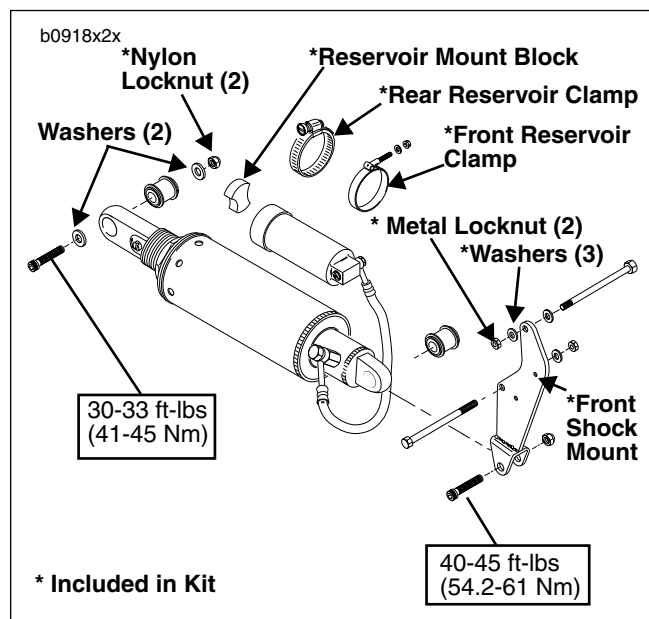

Figure 2. New Shock Absorber Assembly
5. See Figure 2. Use a flex socket and extension to remove locknut and washer from front reservoir clamp. Discard clamp and locknut. Retain washer.
6. See Figure 2. Loosen rear reservoir clamp. Slide reservoir and mount block out of clamp. Remove and discard clamp and mount block.
1. See Figure 2. Install new front shock mount to crankcase with two **new** front shock mount bolts, washers and metal locknuts. Tighten bolts to 30-33 ft-lbs (41-45 Nm). NOTE: Top bolt goes in from the left side, bottom bolt goes in from right side. The bottom bolt does not use washer under the bolt head.
4. See Figure 2. Position **new** shock absorber from kit in mounting position.